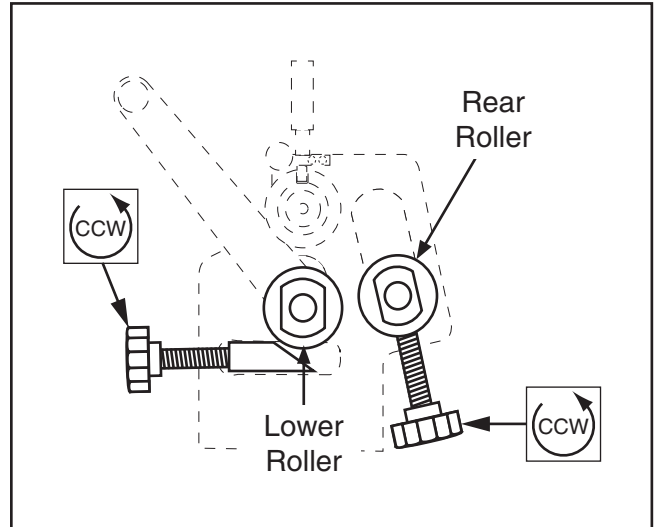

Figure 15. Slip roll preparation.
1. Turn thickness adjustment knobs to adjust lower roller to approximately 1/4" below top roller (see **Figure 15**).
2. Lower rear roller to lowest position (see **Figure 15**).